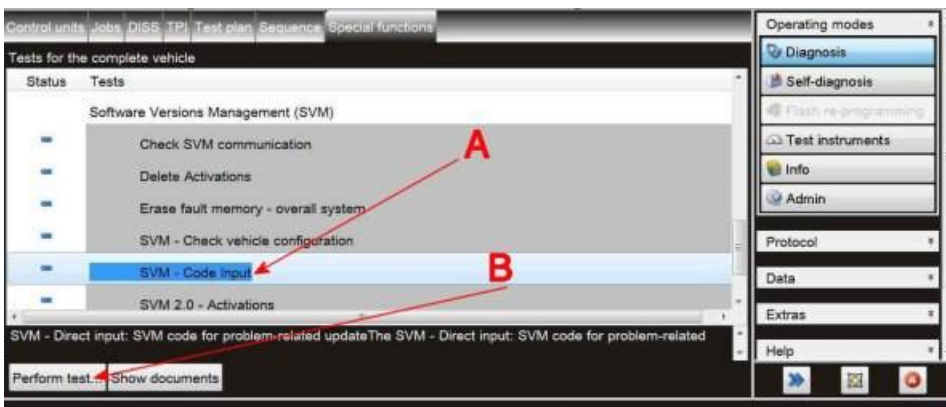

Figure 1
- Referring to Figure 1 - Within the Special functions tab select SVM - Code input (A) then select Perform test (B)